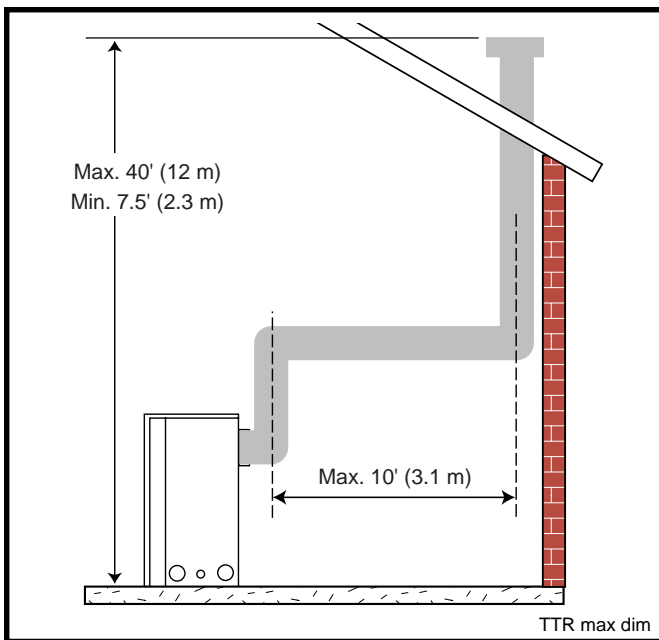

Fig. 30 Support straps for horizontal runs.
- Vertical installations up to 40' (12 m) in height. Up to a 10' (3 m) horizontal vent run can be installed within the vent system using a maximum of two 90° elbows (Fig. 30).
- Two sets of 45° elbows offsets may be used within the vertical sections. From 0 to a maximum of 8' (2.5 m) of vent pipe can be used between elbows (Fig. 30).